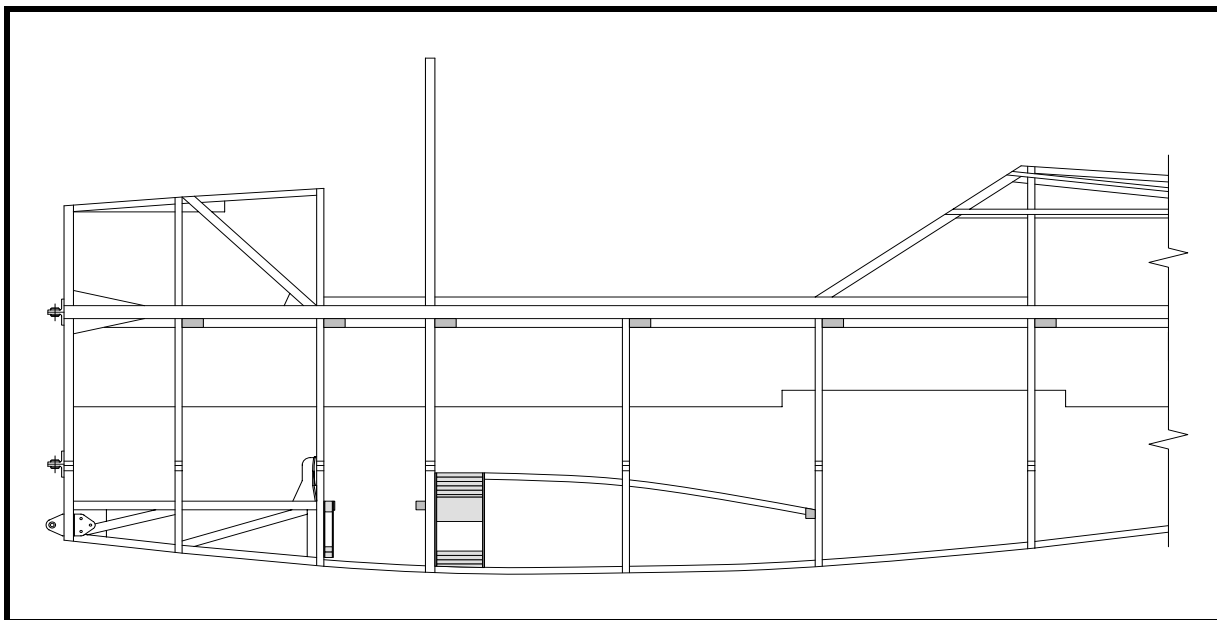

Figure 10
- ❑ Remove P/N 708. Clamp P/N 776 in place. Use a 3/16" transfer punch to locate the five holes in P/N 776. Drill these five 3/16"Ø holes in P/N 776. See Figure 10.